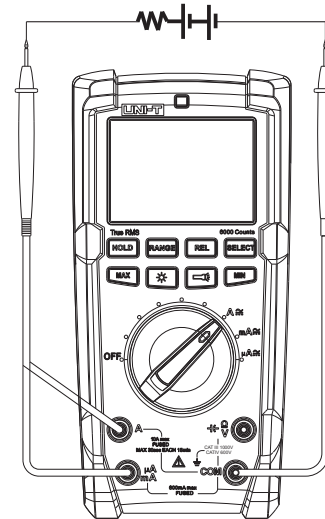

Figure 7
9.6 AC/DC Current Measurement (See Figure 7)